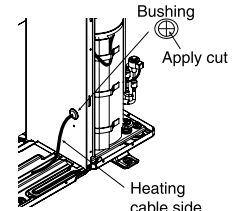

Fig. 2b
- Insert the heating cable side through the bushing on the sound proof board. (Fig. 2b)